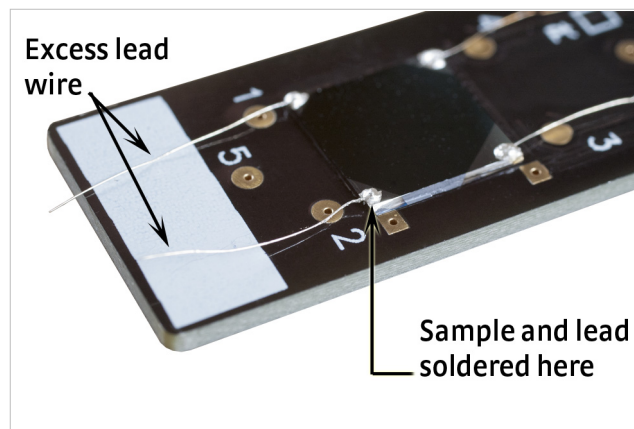

FIGURE 4-10 Lead wire soldered to the sample with excess wire not yet cut
7. Solder the end of the wire to the sample contact point (FIGURE 4-10).
It is helpful to cut the lead wire long enough so that it extends beyond the contact pad on the sample card as shown in FIGURE 4-10. This ensures that you will have enough wire, and it relieves the tedious process of measuring, cutting, and soldering an exact length of lead wire.